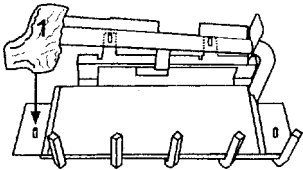

Figure 45 - Installing Log No. 1
1. Place log #1 (base log), onto pin on left front side of grate as shown in Figure 45.